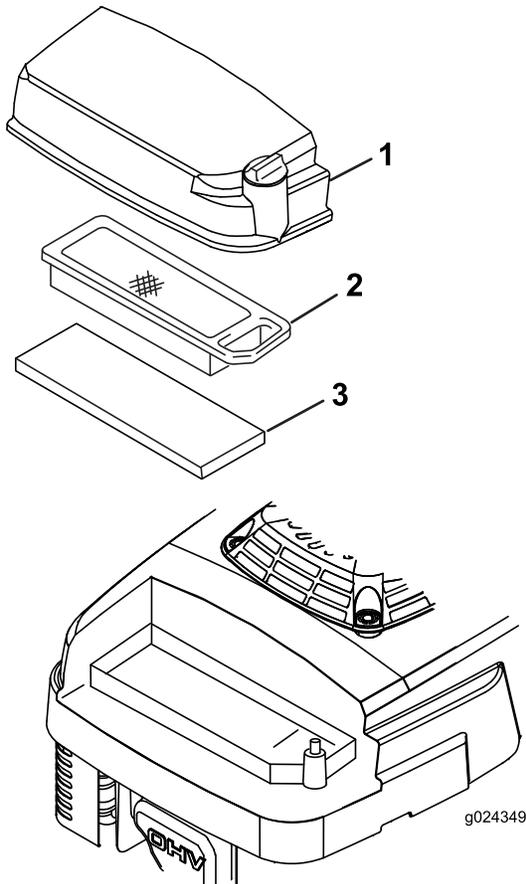

Figure 17
3. Loosen the screw on the air-cleaner cover (Figure 17).
5. Remove and inspect the paper air filter (Figure 17), and replace it if it is excessively dirty.
6. Remove the foam pre-cleaner (Figure 17) and wash it with a mild detergent and water, then blot it dry.